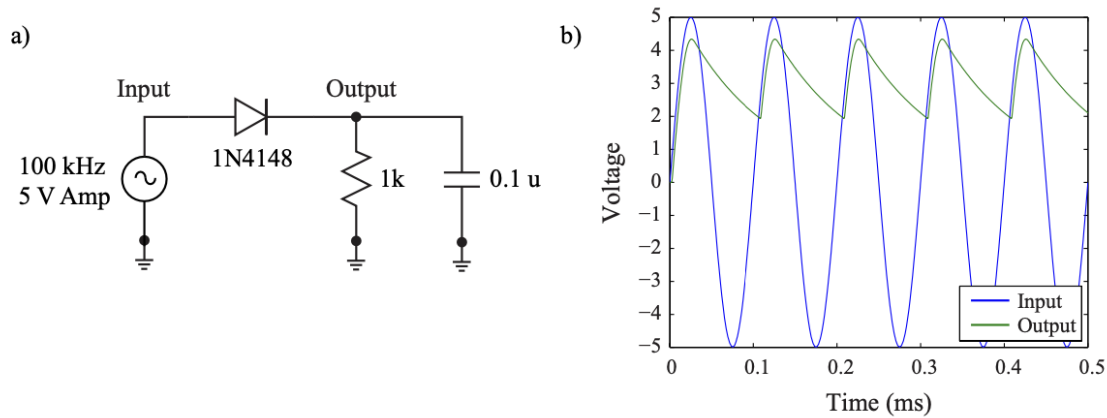

Figure 7.3: A simple half-wave rectifier but with a capacitor at the output (a) and the resulting input and output signals (b).
Simply adding a capacitor to the half-wave rectifier results in an AC to DC converter, Figure 7.3. The circuit initially behaves as it did previously, once the input sine wave reaches the forward bias voltage, the output follows the input. However, once the sine wave starts to decrease, the output then discharges as a function of an RC time constant, the process then repeats. For higher input frequencies and capacitances, the output can be approximated as a DC source.
2. Build the circuit in , Figure 7.3 (a). Set the input to a 100 kHz, 5 V amplitude sine wave and run a transient simulation with a stop time of 50u (.tran 50u) and step through possible capacitor values using the following spice directive: